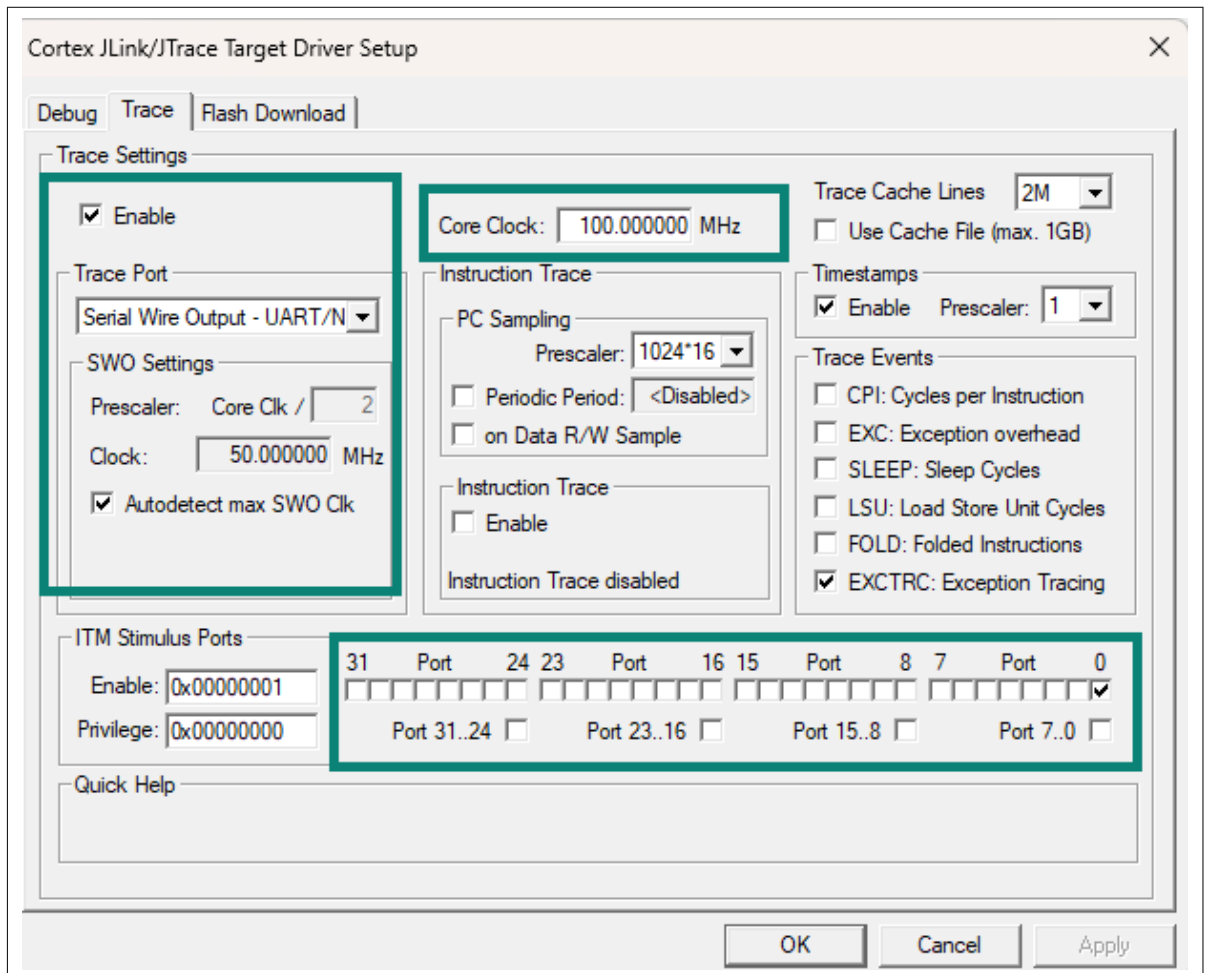

Figure 33 Configurations in Debug > Trace tab
- b. For J-Link/J-Trace, follow the steps described in the Configure the debugger script and debugger with J-Link/J-Trace section and configure the settings as shown in Figure 33